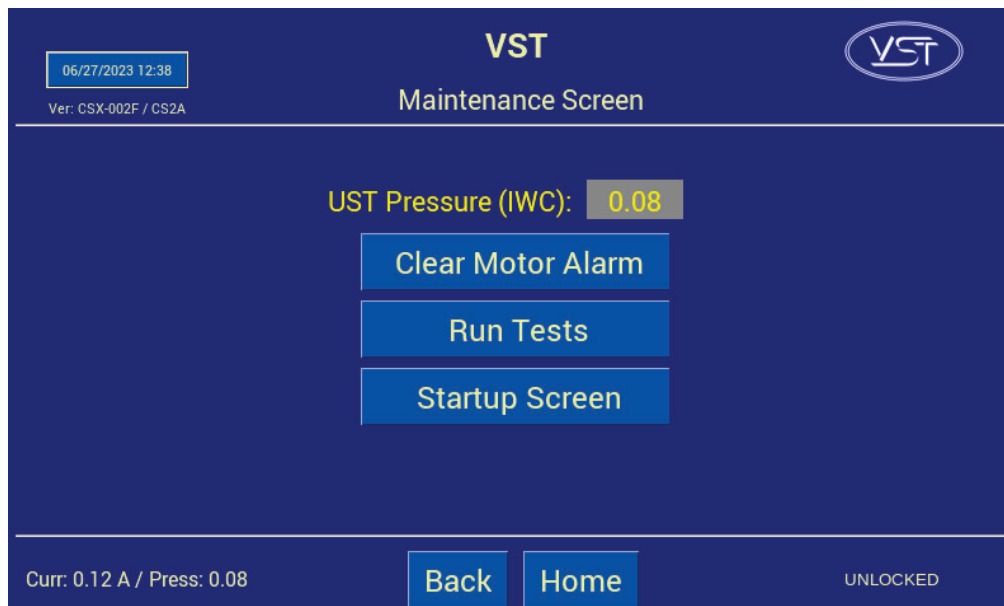

Figure 9-23: Maintenance Screen
2. At the Maintenance Screen, push Run Tests button, then the Functionality Test button to operate the Vacuum Pump. This will allow the Vacuum Pump to blow outside air through the plastic tube. **See Figure 9-23.**